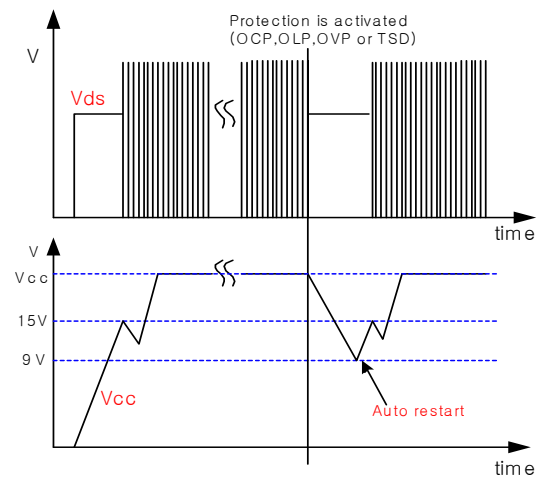

Figure 3. Auto restart operation after protection
3. Protection function : FS8S0765RCB has 4 self protective functions such as abnormal over current protection (AOCP), over load protection (OLP), over voltage protection (OVP) and thermal shutdown (TSD). Because these protection circuits are fully integrated into the IC without external components, the reliability can be improved without cost increase. In the event of these fault conditions, the FPS enters into auto-restart operation. Once the fault condition occurs, switching operation is terminated and MOSFET remains off, which forces V_{cc} to be reduced. When V_{cc} reaches 9V, the protection is reset and the supply current reduces to 80 μ A. Then, V_{cc} begin to increase with the current provided through the start-up resistor. When V_{cc} reaches 15V, the FPS resumes its normal operation if the fault condition is removed. In this manner, the auto-restart alternately enables and disables the switching of the power MOSFET until the fault condition is eliminated as illustrated in figure 3.